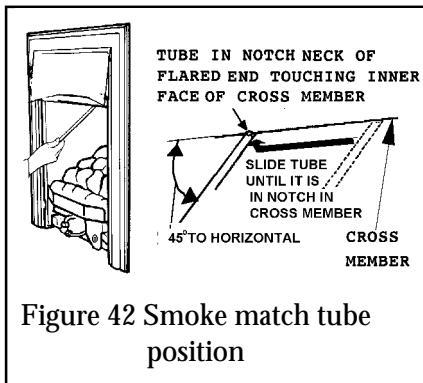

Figure 42 Smoke match tube position
13.2.4 Place the smoke match tube into the convection box at the right hand side and immediately below the black top cross member. Angle it at approximately 45° to the horizontal (fig. 42).
Insert the tube so that the neck of its flared end touches the inside surface of the edge of the cross member (figure 42).